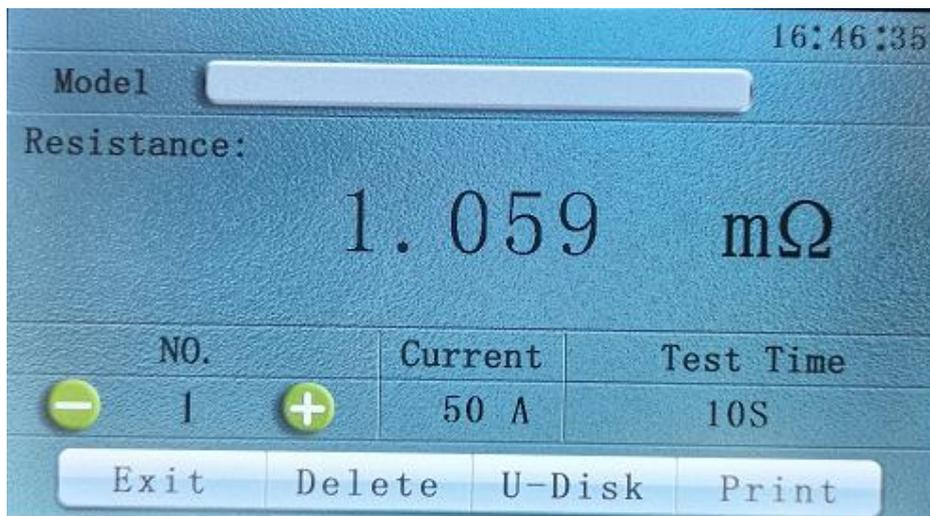

Fig 4
4、Click data management to query data, as the fig 4